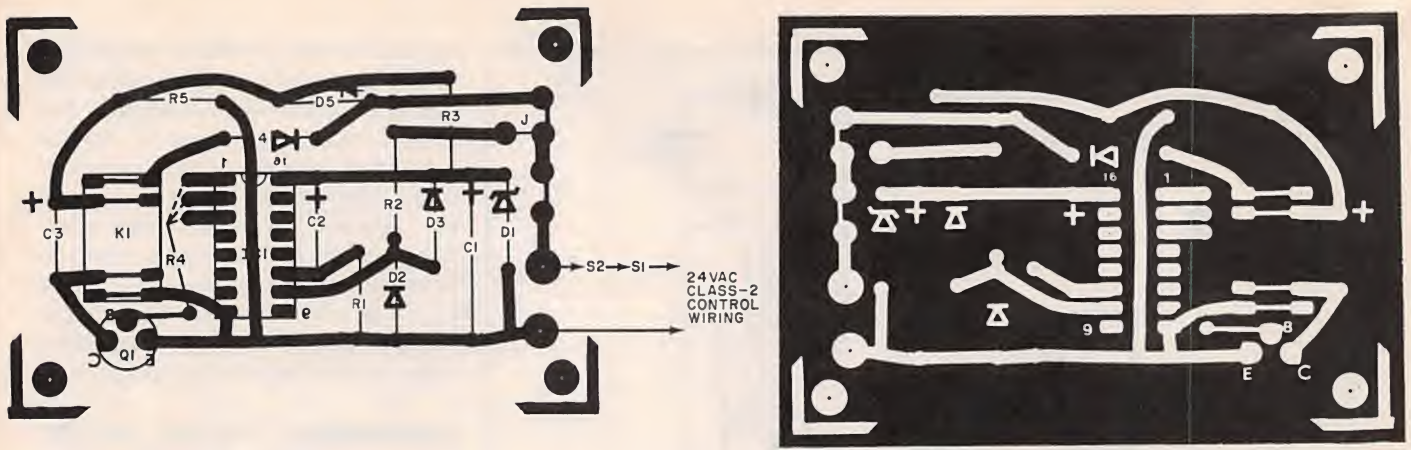

Fig. 3. Etching and drilling and parts placement guides for a suitable pc board.
**Construction.** Wire-Wrap, point-to-point or printed-circuit techniques can be employed in the construction of the Auto Closer. Parts placement and lead dress are not critical. Although the printed circuit board (see Fig. 3) has been designed to accommodate a reed relay, a perf-board version of the project could use a standard low-power relay such as the Radio Shack No. 275-003.